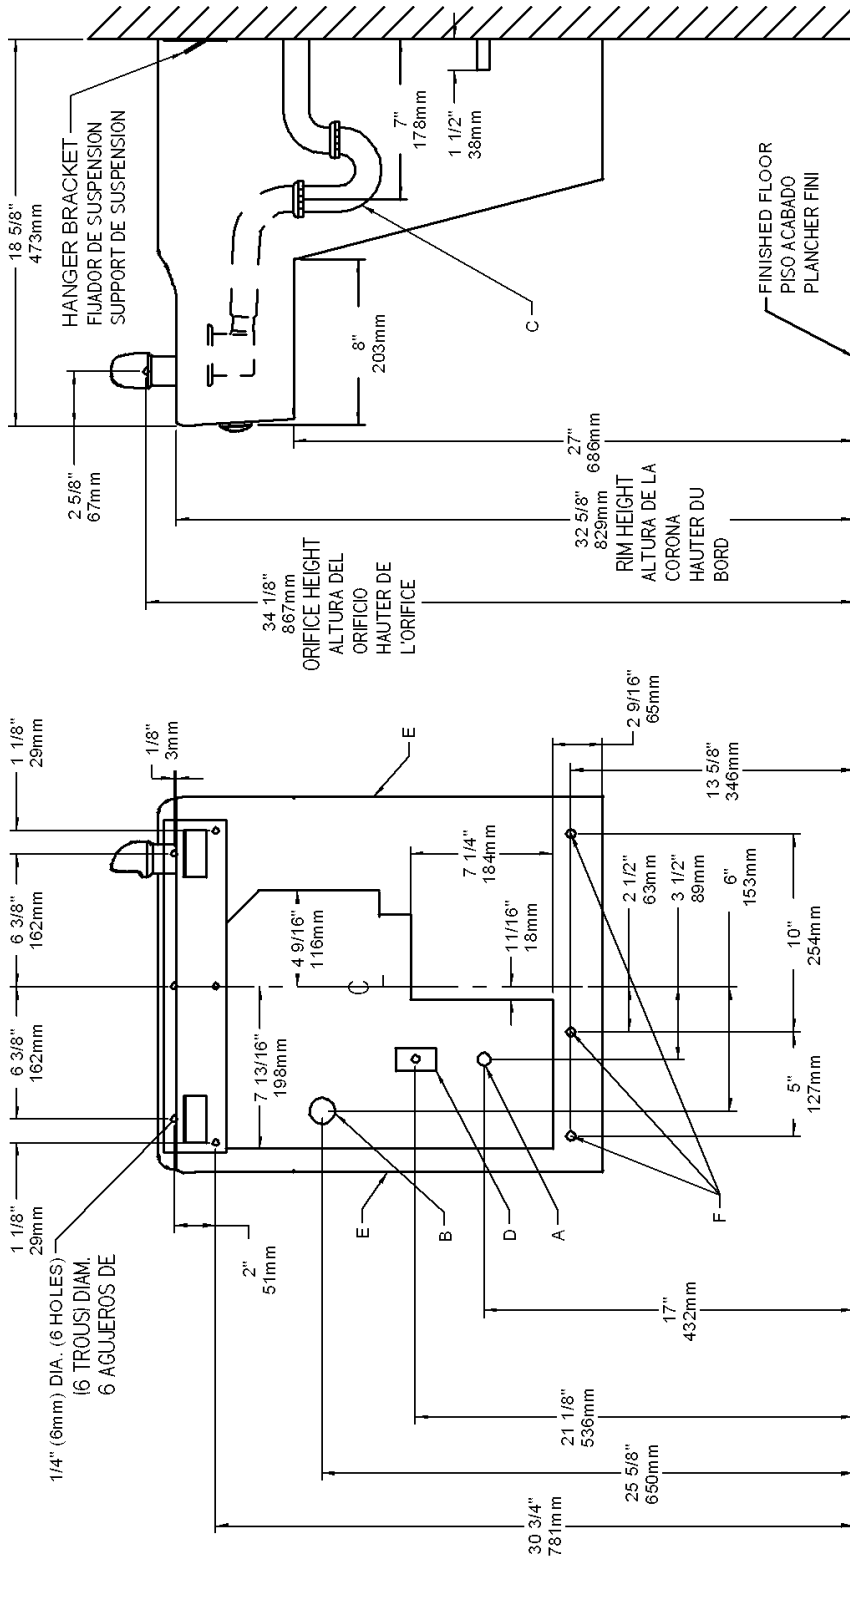
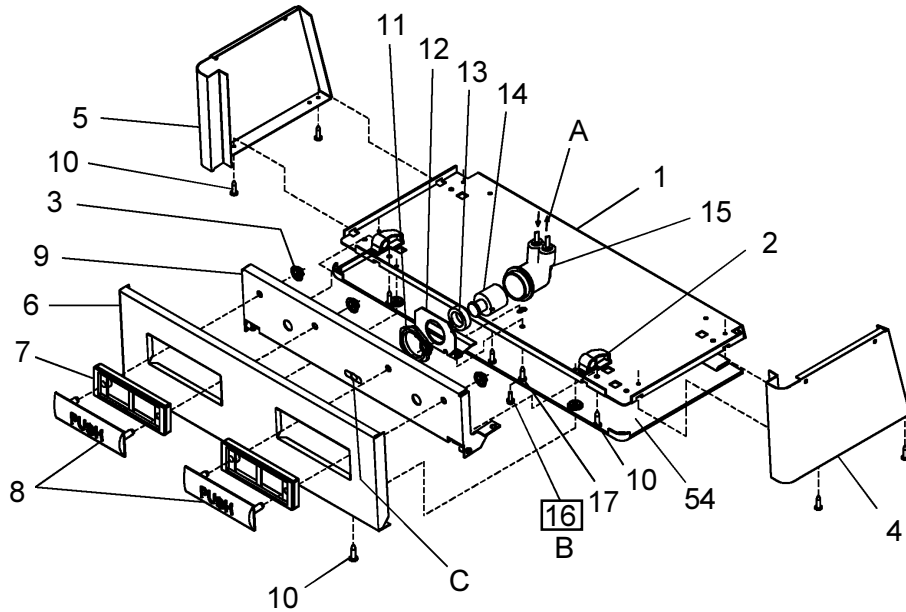
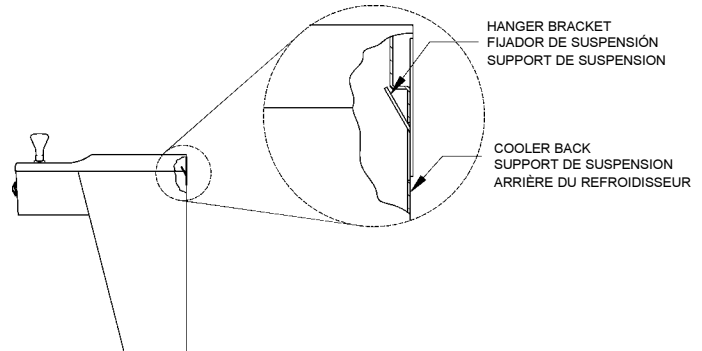

FIG. 2
FIG. 3
FIG. 4
See Fig. 3 (on Page 3)
- 1) Remove hanger bracket fastened to back of cooler by removing one (1) screw.
- 2) Mount the hanger bracket and trap as shown in Figure 2.
- Anchor hanger securely to wall using all six (6) 1/4 in. dia. mounting holes.
- 4) Hang the cooler on the hanger bracket. Be certain the hanger bracket is engaged properly in the slots on the cooler back as shown in Fig. 4.
- 5) Loosen the two (2) screws holding the lower front panel at the bottom of cooler base and two (2) screws at the top. Remove the front panel and set aside.
- 8) Stream height is factory set at 45-50 PSI. If supply pressure varies greatly from this, readjust stream height to approximately 1-1/2" (38mm) above the bubbler guard by turning adjustment screw, accessible by removing front push panel, Item No.6 (see Fig. 3).
- 10) Replace the front panel and secure by retightening four (4) screws.